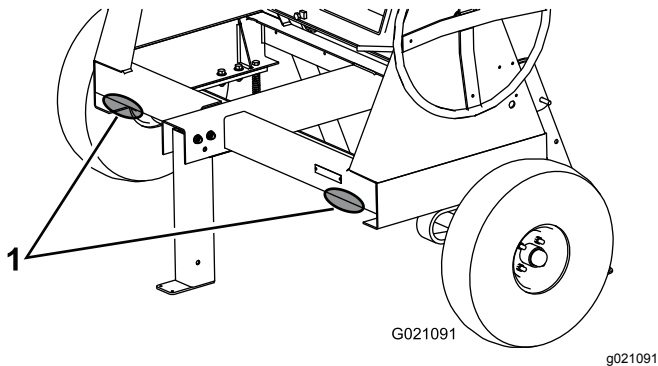

Figure 5
2. Place jack stands under the front frame rail to prevent the machine from tipping forward (Figure 5).